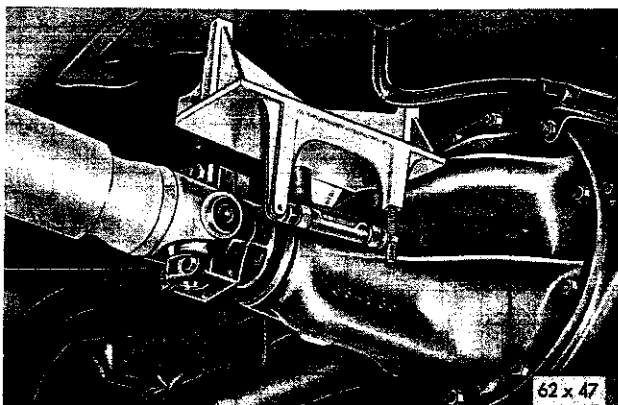

Fig. 9—Measuring the Angle of the Rear Axle Housing
(2) Remove the rebound plate and bumper assembly from the top of the differential carrier housing.
(3) Hold the gauge, Tool J-6485 on the machined surfaces of the rebound plate bosses (Fig. 9). Adjust the gauge to center the bubble in the spirit level.
(4) Hold the aligning gauge Tool J-6485 on the machined pads of the differential carrier and adjust the gauge to center the bubble (Fig. 9).